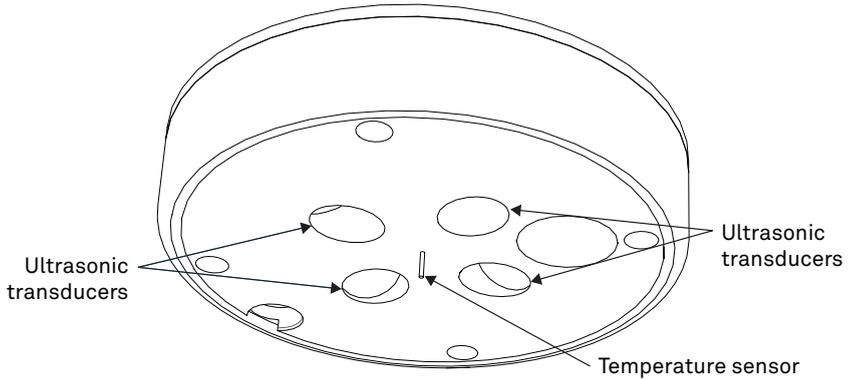
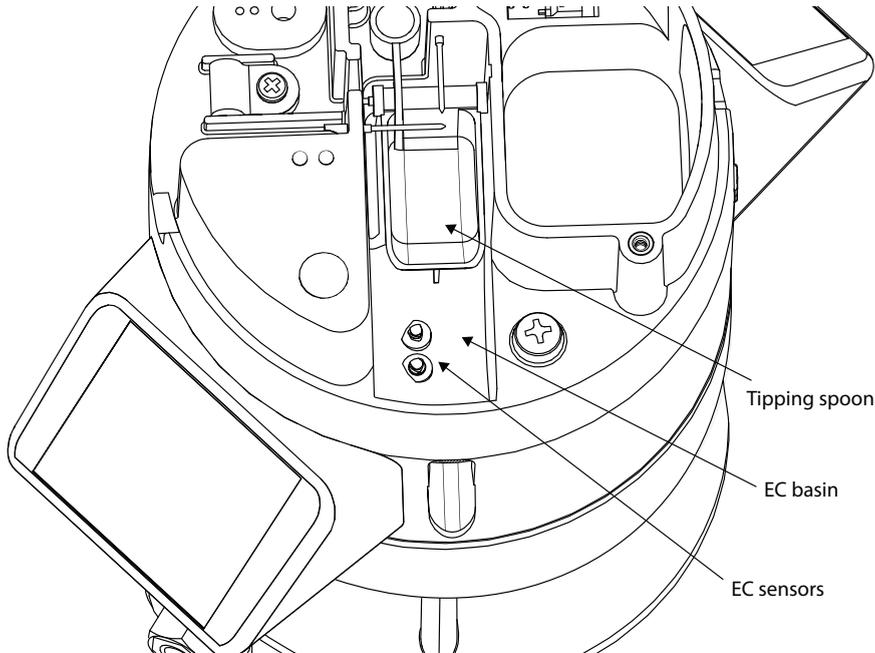

Figure 30 Temperature sensor and ultrasonic transducers
Figure 35 EC basin and EC sensor
After removing the instrument from the mounting pole, remove the rain funnel and dump the liquid contents that could be in the EC basin (Figure 35). If the liquid contents are not emptied, the contents of the basin (dirt, bird droppings) will make a mess as the instrument is transported.
1. Make sure nothing is obscuring the temperature sensor or the sonic transducers shown in Figure 30 (cobwebs, leaves, wasp nests, etc.).
- a. Ultrasonic transducer openings (Figure 30)
- c. Locate the tipping spoon, precipitation basin, and EC Sensor (Figure 35).
Avoid more than light pressure while cleaning the tipping spoon (Figure 35) and the sonic transducers (Figure 30)
Check to make sure that there are no obvious problems and that the gold electrodes are aligned correctly (Figure 35).